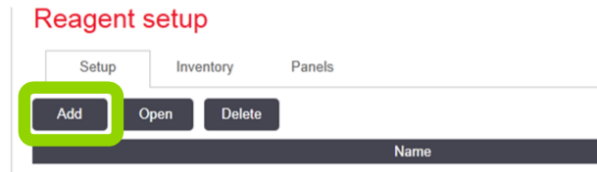

Figure 28: Add reagent button
- From the **Setup** tab, click the **Add** button (see Figure 28).